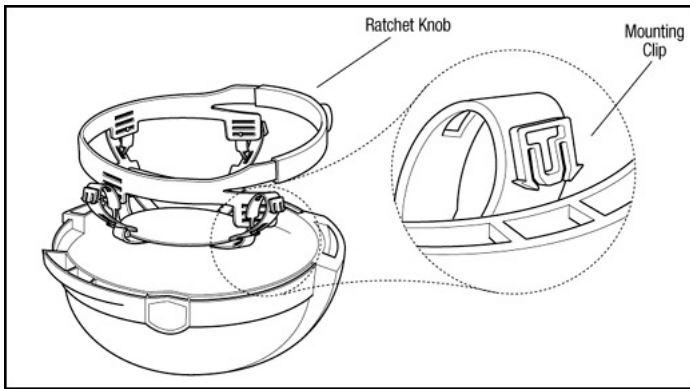

Fig. 6: Installing the Head Suspension, L-113
- With the headgear upside down, and the foam liner installed (see section Foam Liner L-163, if liner has been removed), hold the head suspension as shown in Fig. 6. The ratchet knob on the head suspension points toward the rear of the headgear.
- Place the headgear on your head, positioned for normal use. Turn the ratchet knob on the back of the headband until the suspension feels snug but comfortable (Fig. 6). Turn ratchet knob clock-wise to tighten and counter-clockwise to loosen.
- Remove the complete head suspension (Fig. 6).